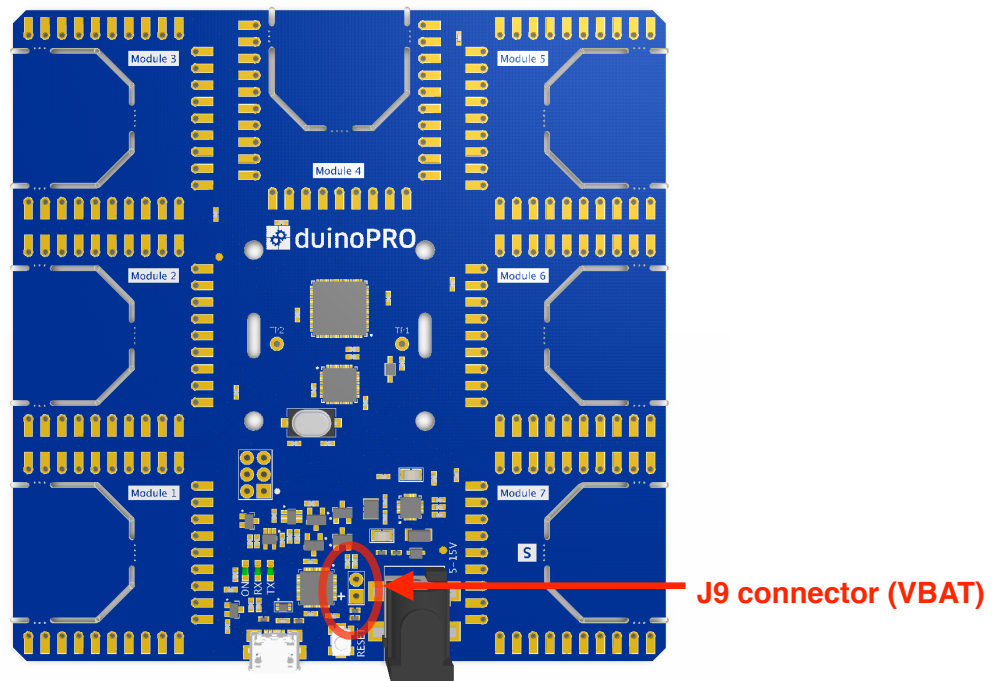

Figure 1. duinoPRO UNO baseboard - 3D render (front)
*VBAT* is a signal on the baseboard and on all of the module spaces. If the board is powered from *VBAT* via a yellow power supply module such as the duinoPRO **Coin Cell** Module or directly via the baseboard connector *J9* (marked in *figure 1* above, and not fitted by default), the voltage level of this signal can be measured in software for battery monitoring purposes.